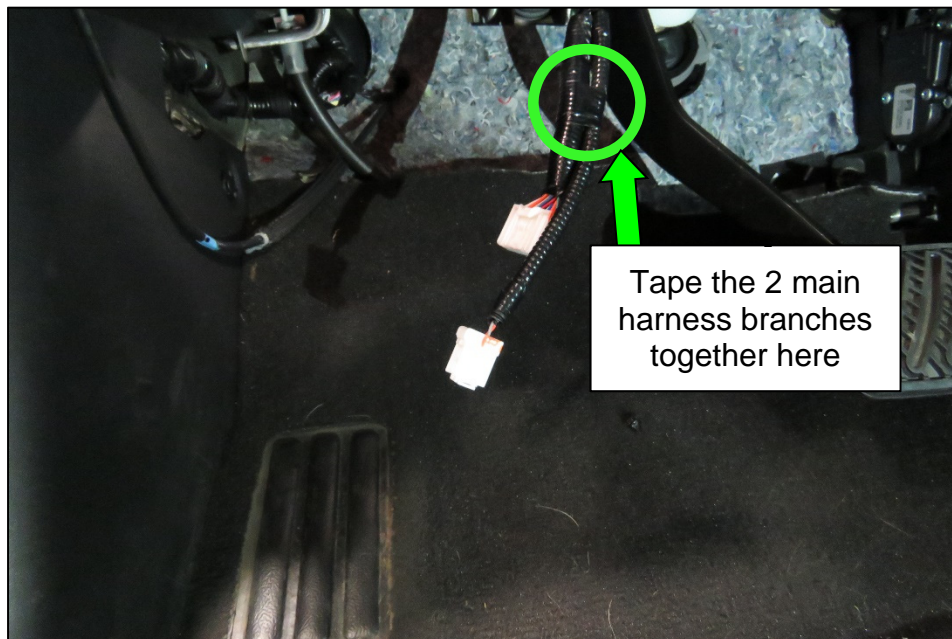

Figure 8
13. Tape the 2 main harness branches back together like they were originally (Figure 8).